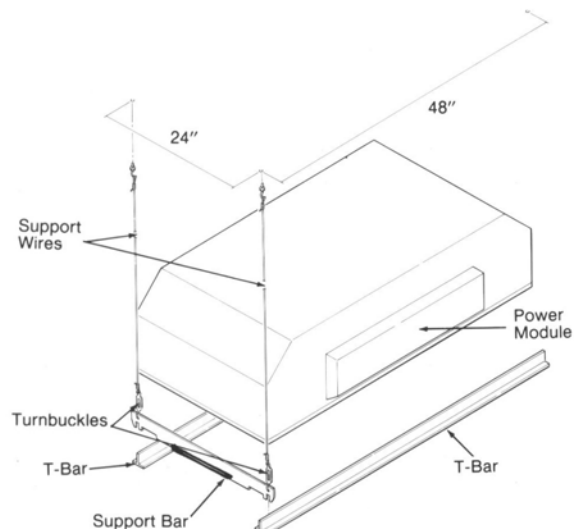

FIGURE 3
4. Unplug the power module from the air cleaner before attempting to complete removal. Unscrew and remove the power module (see FIGURE 3). Hint: Tilt the power module away from the air cleaner to facilitate removal.
1. Attach four 12-gauge, galvanized steel support wires to the true ceiling at the location shown in FIGURE 3. Twist each wire at least four times to provide safe support for the air cleaner. The free end of each wire should extend six inches or more below the bottom of the T-bars.
2. At the end of each opening, set a support bar across the T-bars. The "J" shaped portion of the support bars should be oriented so the hook side of the "J" is toward the opening (not toward the adjacent T-bars). See FIGURE 3.